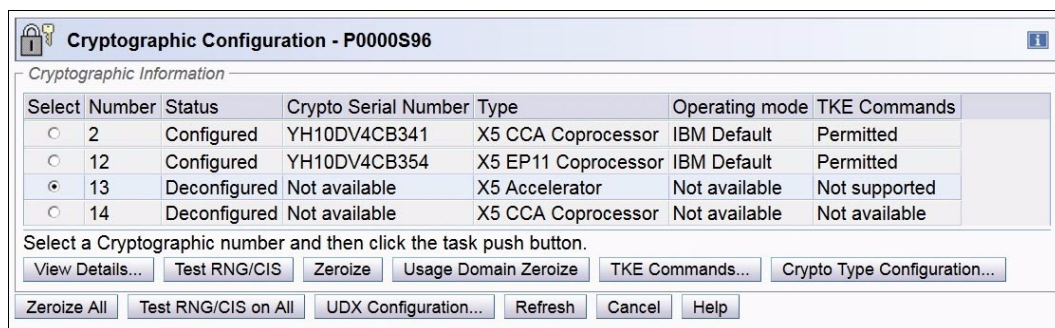

Figure 10-11 SE: Cryptographic Configuration task (Deconfigured)
3. Select the number of the cryptographic coprocessor channel (Figure 10-11) and click **Crypto Type Configuration**.